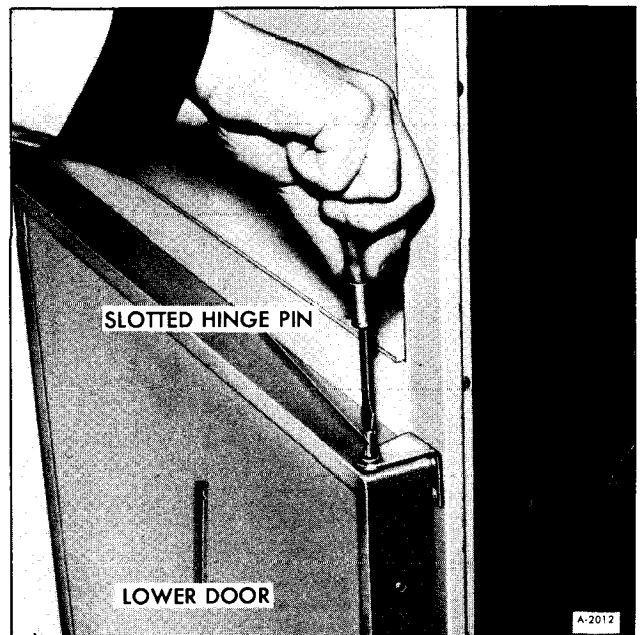

Figure 9—Removing Center Hinge Pin
3. Top of hinge pin is slotted to accept a screw driver. Remove this hinge pin (figure 9).
2. Install center hinge pin (figure 9).